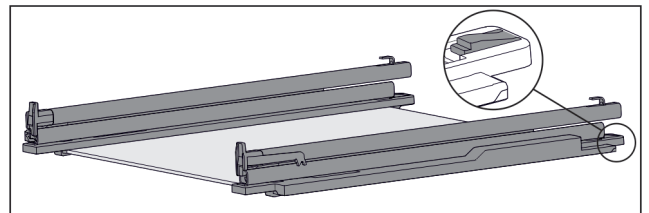

Fig. 52 Glass shelf with rails and retaining parts
- ▶ Press down retaining part at the rear (see Fig. 52) and at the same time push the rail back.